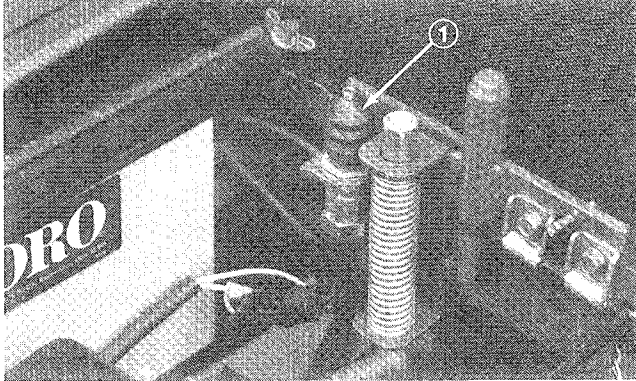

Figure 38
3. Remove boot from button end of seat switch (Fig. 38). Retain boot for reinstallation. Separate switch wire connectors.